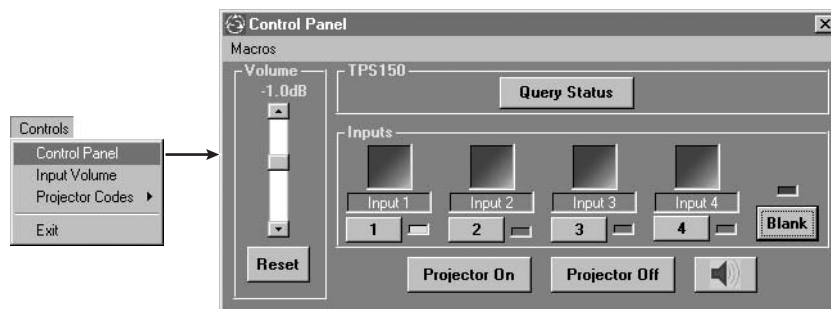

Figure 4-14 — Transmitter Control Panel window
1. Click *Controls > Control Panel*. The Transmitter Control Panel window appears (figure 4-14).